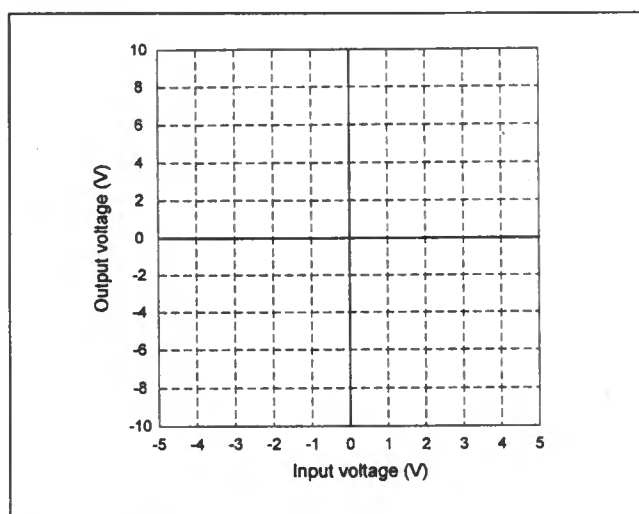

Fig. 5.12 Output voltage plotted against input voltage for the non-inverting amplifier ($R_F = 1k\Omega$).
- Use the results from Tables 5.6 and 5.7 to plot two graphs showing V_{OUT} plotted against V_{IN} for input voltages over the range $-4V$ to $+4V$. One graph will be for $R_F = 1k\Omega$ whilst the other will be for $R_F = 2k\Omega$ (see Figs. 5.12 and 5.13).